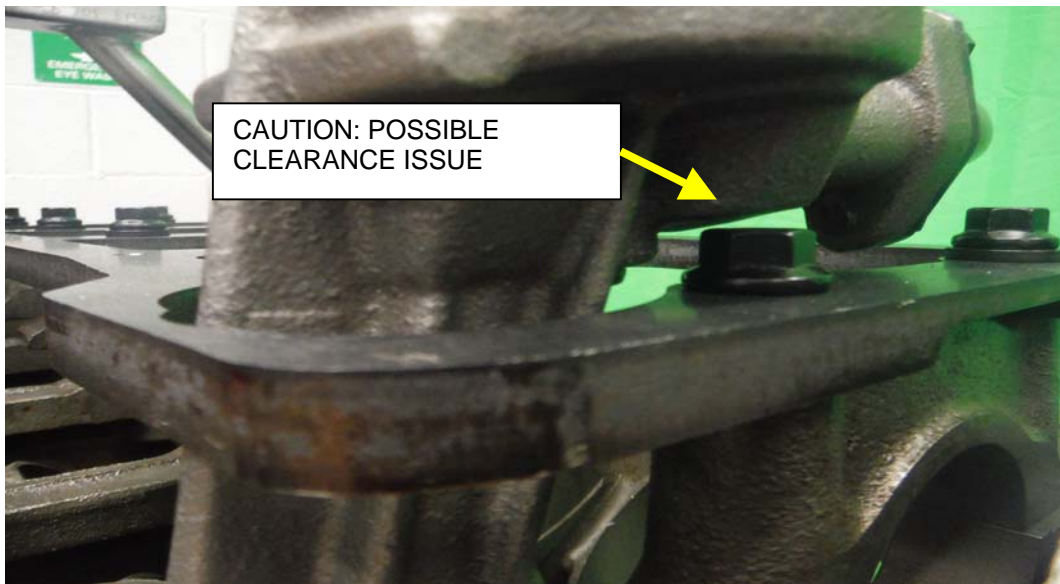

FIG 6
- 4) Remove all the main cap screws upon verification, and install the Main Cap Girdle, washers, with main cap screws except the one utilizing the pickup bracket. **NOTE** The screw under the oil pump body **will not clear most oil pumps with the washer**, (Ref fig. 6) therefore you can choose to grind relief from the oil pump or not use the washer for that one screw.
- 6) Remove the oil pump to torque all (10) main cap screws per factory specifications.